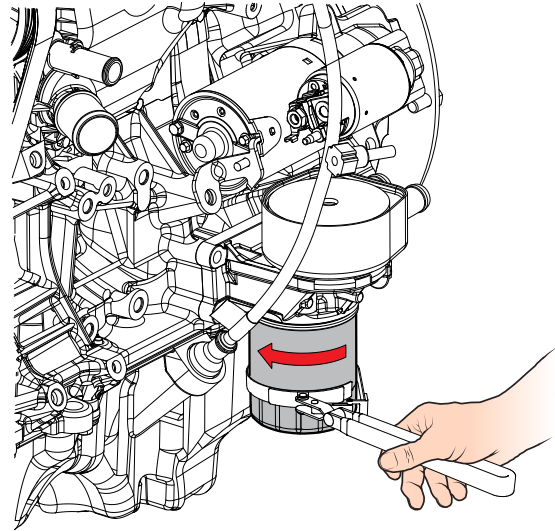

Figure 60. Oil Filter Removal
- Using a filter wrench (Figure 60), turn the oil filter counterclockwise to remove.